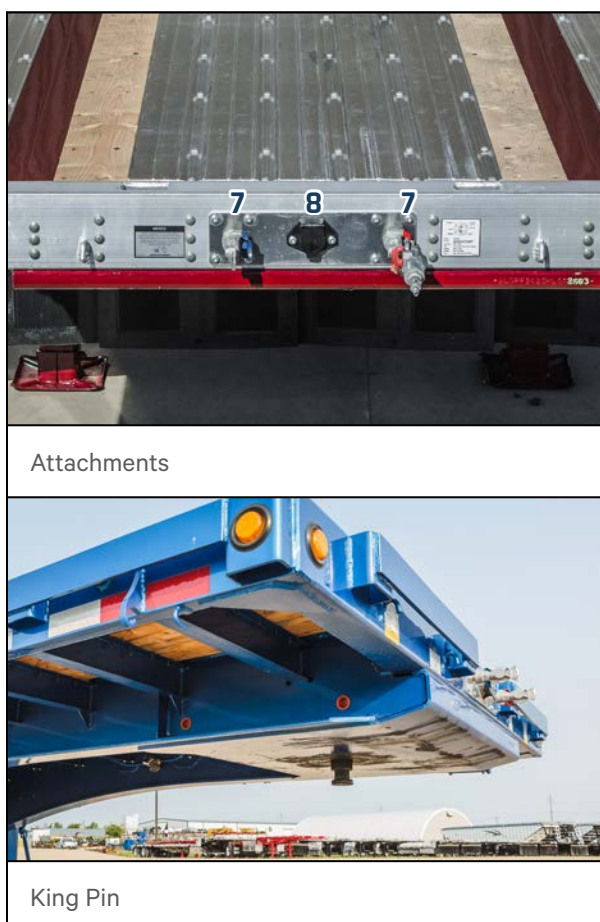

Figure 12 – Connecting (Typical)
5. Before connecting the air lines to the trailer check the security of the fifth wheel to the king pin connection by trying to drive the tractor forward slightly. The trailer parking brakes should remain engaged, preventing the trailer from rolling. If the fifth wheel connection is secure the trailer parking brakes will resist moving. Conversely, if the connection is NOT secure the trailer will remain stationary and the king pin will slide back out of the fifth plate. Reference Figure 12.
7. Before attaching the tractor or Lead gladhands to the trailer check for dirt or debris and clean as necessary. Positively connect the tractor or Lead gladhands to the trailer. The gladhands are color coded **BLUE** and **RED** to avoid incorrect connection. Connect the blue gladhand (service brake line) of the tractor or Lead to the blue gladhand on the trailer. Similarly, connect red to red (emergency/supply brake line). Reference Figure 12. We will confirm brake function a few steps later on, to prove that the air lines are not connected backwards.